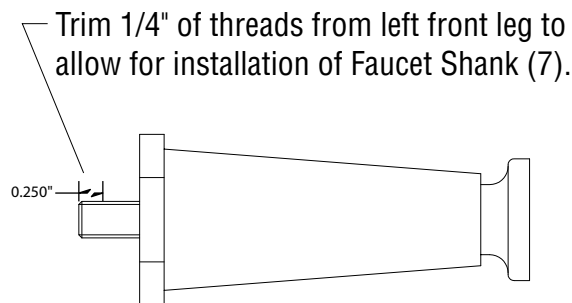

FIG 2
7. For Early Models only, install 90 degree barb fitting (1) into tank; barb must be pointing down.
9. Install hole plug (9) into faucet mounting hole in control panel.
10. Place a new clamp (2) on one end of new silicone tube (3). Install new tube onto hose-barb fitting installed in tank in step 7 for Early Models, or onto tank for Late Models; tighten the clamp.
13. Remove the left front leg from the brewer and trim .25" of threads from the leg (FIG 2).